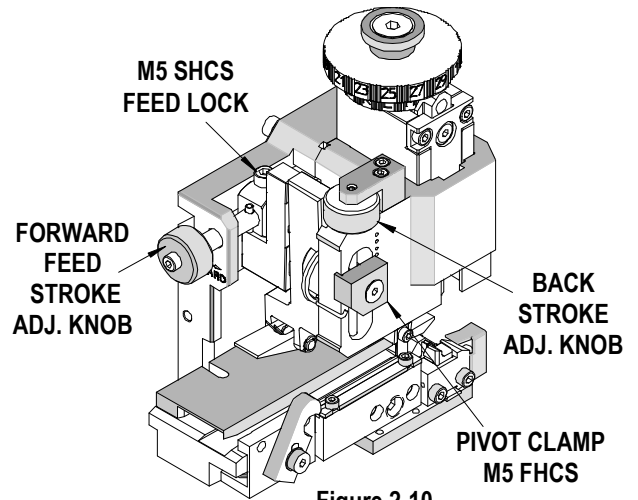

Figure 2-10
5. Turn the forward feed adjusting knob to position the terminal. To decrease the feed position, turn the forward feed adjusting knob clockwise. To increase the feed position turn the forward feed adjusting knob counterclockwise. See Figure 2-10.
3. To achieve the correct backstroke location, adjust the position of the hinge bushing. First, use a 3mm hex wrench to loosen the M5 FHCS holding the pivot clamp. Turning the backstroke adjustment knob (which is located above the hinge bushing) clockwise will raise the hinge bushing and will increase the backstroke. Turning the knob counter clockwise (CCW) will lower the hinge bushing and will decrease the feed backstroke. When adjustment is complete, tighten the pivot clamp securely. See Figure 2-10.